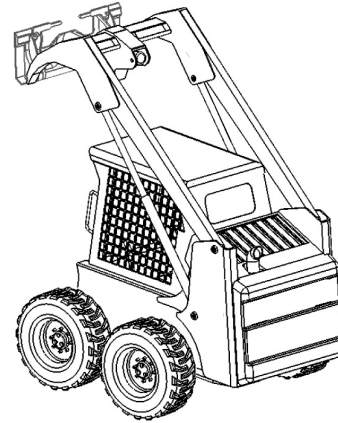

Fig. 1
1. Raise and block the boom according to the manufacturer's instructions, (**Fig. 1**) allowing safe access to the front of the machine. Turn off machine when not using it for the installation process.